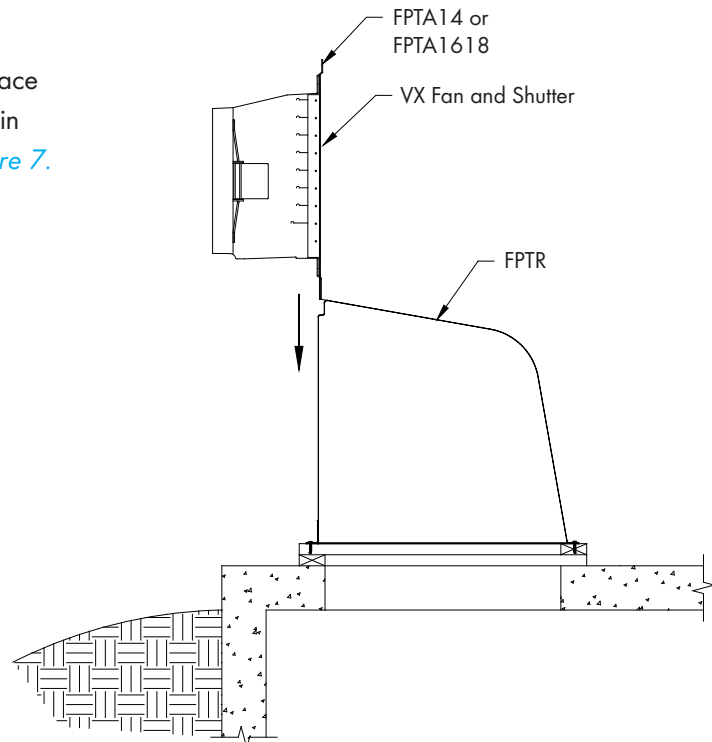

Figure 7
Slide Adapter with Fan and Shutter into place in FPTR housing slots and secure Adapter in place using (8) TEK Screws [B]. See Figure 7.